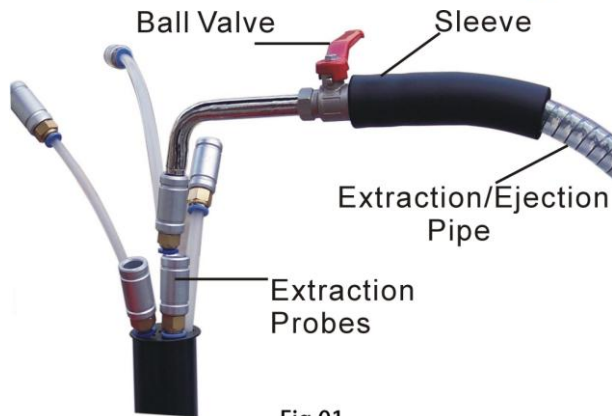

Fig.01
1. Choose suitable probe (which is the largest diameter one can be inserted into the engine) and tightly connect it to the extraction pipe connector. (refer to Fig.01)
3. Turn on the ball valve (Fig.01)
6. After finish extraction, turn off the extraction ball valve (Fig.01)
- 1 Turn on valve ③, if vacuum existed in the tank, and then oil from cylinder will be fast transferred into the tank.
- 2 If no vacuum existed in the tank, turn on the ball valve (Fig.01) for helping making a quicker transferring of waste oil into the tank.
- 3 Turn off valve1 and ball valve (Fig.01) after ejection finished.